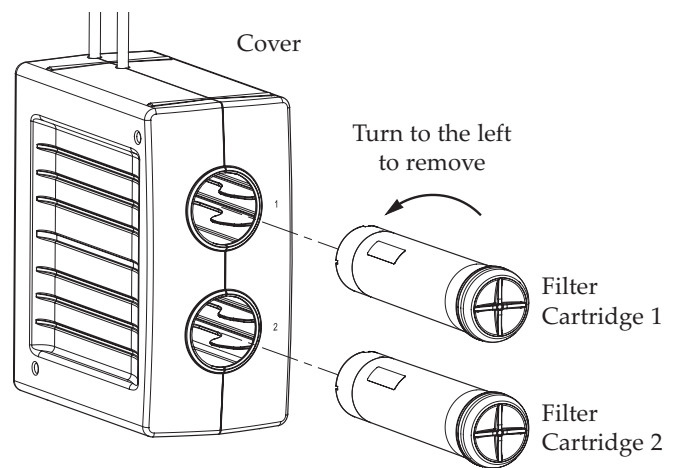

Figure 15
1. Turn filter cartridge to the left to remove cartridges from the filter heads. See Figure 15.